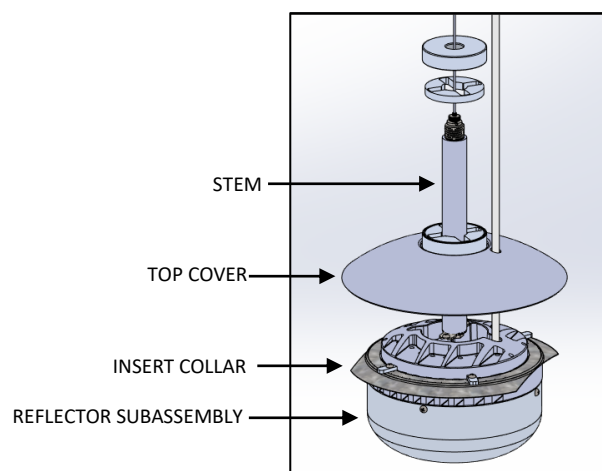

FIG. 36 – REFLECTOR DISSASSEMBLY
28. Lift TOP COVER from the REFLECTOR ASSEMBLY as shown below in FIG. 36. Be careful not to scratch the finish.